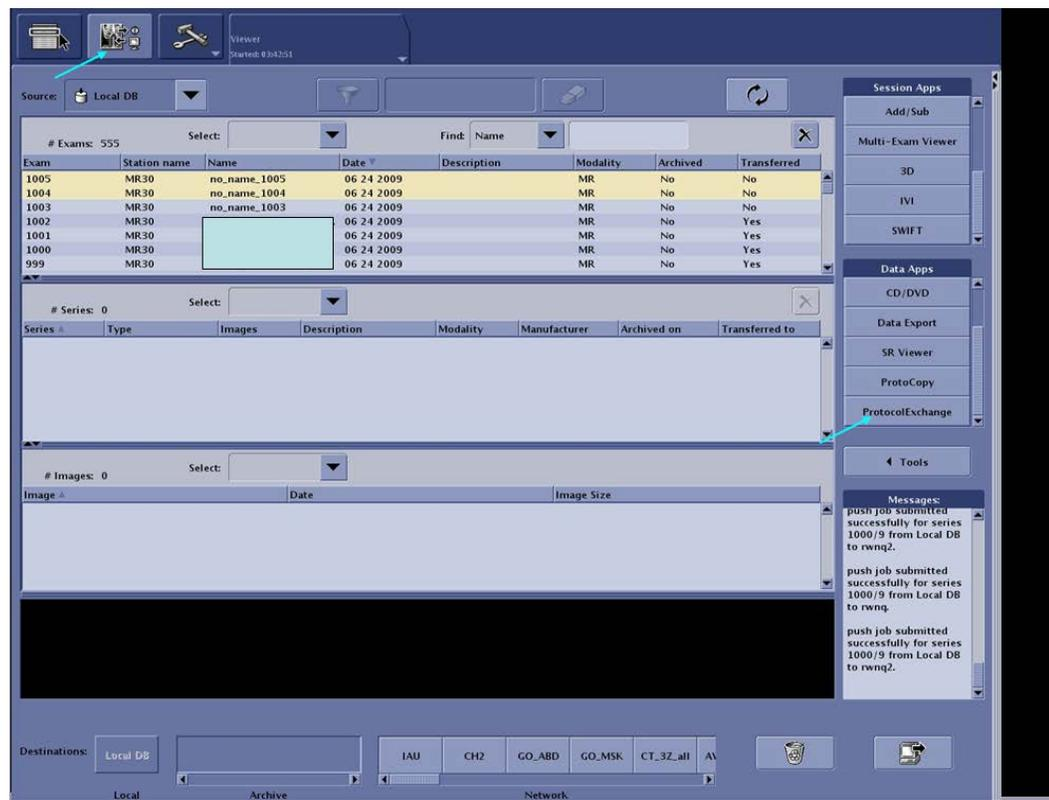

Figure 1: GE ProtocolExchange selection
1. With the USB drive in the computer, select the ProtocolExchange feature (see Figure 1, blue arrow.)